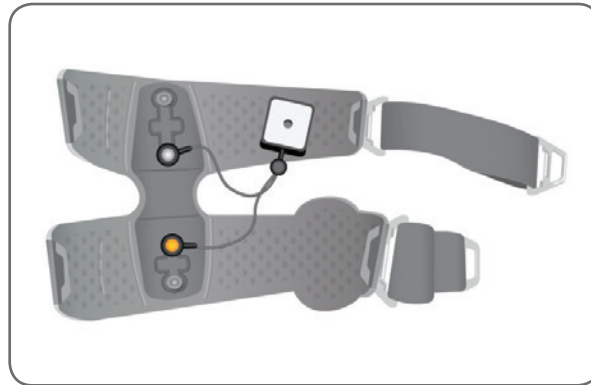

Figure 13-2: Tester Connected to Thigh Cuff
1. Connect the Tester to the distal snap on the thigh FS Cuff proximal panel and to the proximal snap on the thigh FS Cuff distal panel. See Figure 13-2.